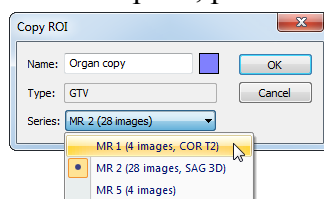

Figure 219 – Copy ROI dialog - selecting the target series
5. Select the target series from the **Series** drop-down menu, if desired (see Figure 219). It is only possible to select a target series that is registered with the source ROI series. The “source ROI” series is the default target series.